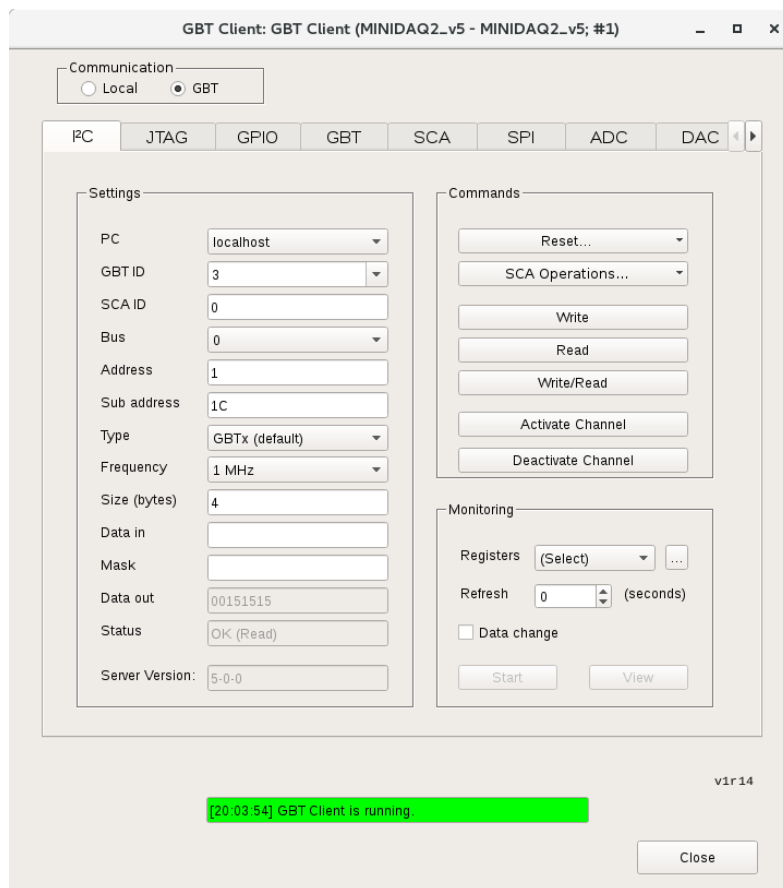

Figure 7: Correct parameters to configure GBT I2C tab.
Before proceed, follow subsection 1.3 to set up hardware. Again we use **GBT Client** to program individual registers of the slave GBTx. Configure the parameter *exactly* as shown in Figure 7.
- 1516 is exactly the last 3 bytes in **Data out** field in Figure 7. This is not a coincidence.